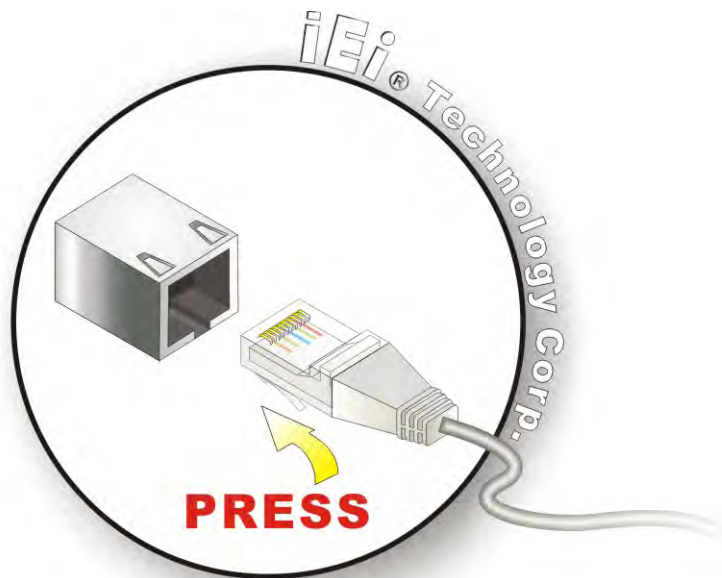

Figure 4-8: LAN Connection
Step 1: **Align the connectors.** Align the RJ-45 connector on the LAN cable with one of the RJ-45 connectors on the IOVU-751R-CE5/UX-R10. See **Figure 4-8**.